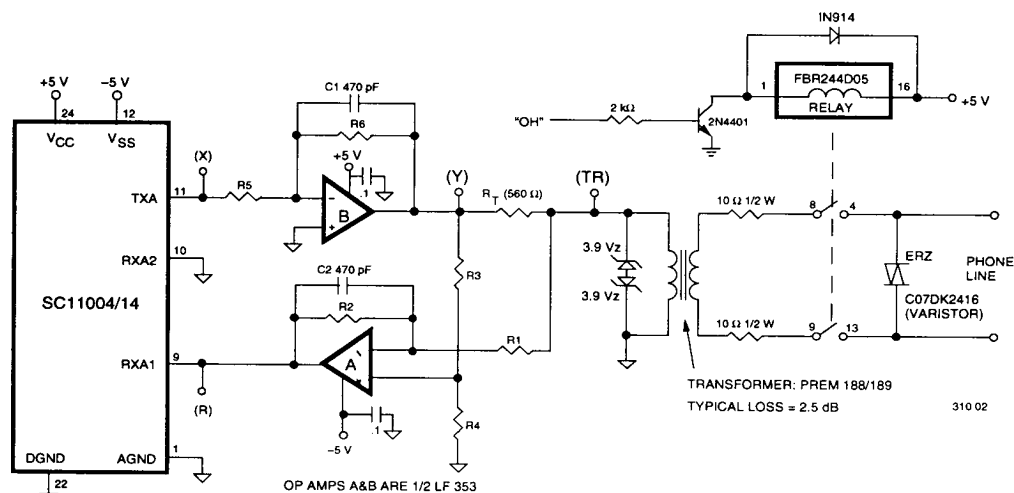

Figure 2. Using an External Hybrid with the SC11004/14
With a higher loss transformer, some degradation in performance at lower signal levels will occur. Specifically, the bit error rate, when operating at receive signal levels below -40 dBm in the presence of noise, will be higher. The energy detect on/off levels measured at the line will also be different from those specified at the chip. With a 3 dB loss transformer for example, the energy detect on/off levels measured at the line will be in the range of -40/-45 dB rather than -43/-48 dB as specified at the chip. An external hybrid circuit, shown in Figure 2, can be used to overcome these losses and achieve maximum performance.
The external hybrid circuit uses two operational amplifiers, one in the transmit path and the other in the receive path. The SC110104/14 internal transmit stage provides a gain of 6 dB over the transmit signal level desired at the line. For example, if the TLC1, TLC0 level control codes are set to 0 and 1 respectively so as to obtain -9 dBm at the line, the chip actually puts out -3 dBm at the TXOUT pin (pin 11). Under ideal conditions, with no loss in the transformer and perfect line matching, the signal level at the line will then be the desired -9 dBm. In practice however there is impedance mismatch and a loss in the coupling transformer. Therefore it may be desired to provide a gain in the transmit and receive paths to overcome the loss. The receive gain G_R and transmit gain G_T are set by the ratios of resistors R2, R1 and R6, R5 respectively (Figure 2).
It should be noted that the transmit amplifier is only needed to overcome the loss in line coupling. It can be eliminated since the transmit signal level specification is typically stated as a maximum. Amplifier B, resistors R5 and R6 and capacitor C1 can be eliminated and point X connected to point Y in the circuit of Figure 2 to achieve a more cost effective external hybrid arrangement.
- Instructions to the modem IC (See Note 1 and 2). Data on the DI/O pin shifted into the modem when $\overline{WR}$ is low, on rising edges of the SCK clock. Data is transferred into a latch when $\overline{WR}$ goes high. (See Figure 2 for write cycle waveforms). Up to 7 data bits (D0–D6) can be sent to the device. These bits control the operating modes of the modem as shown below: